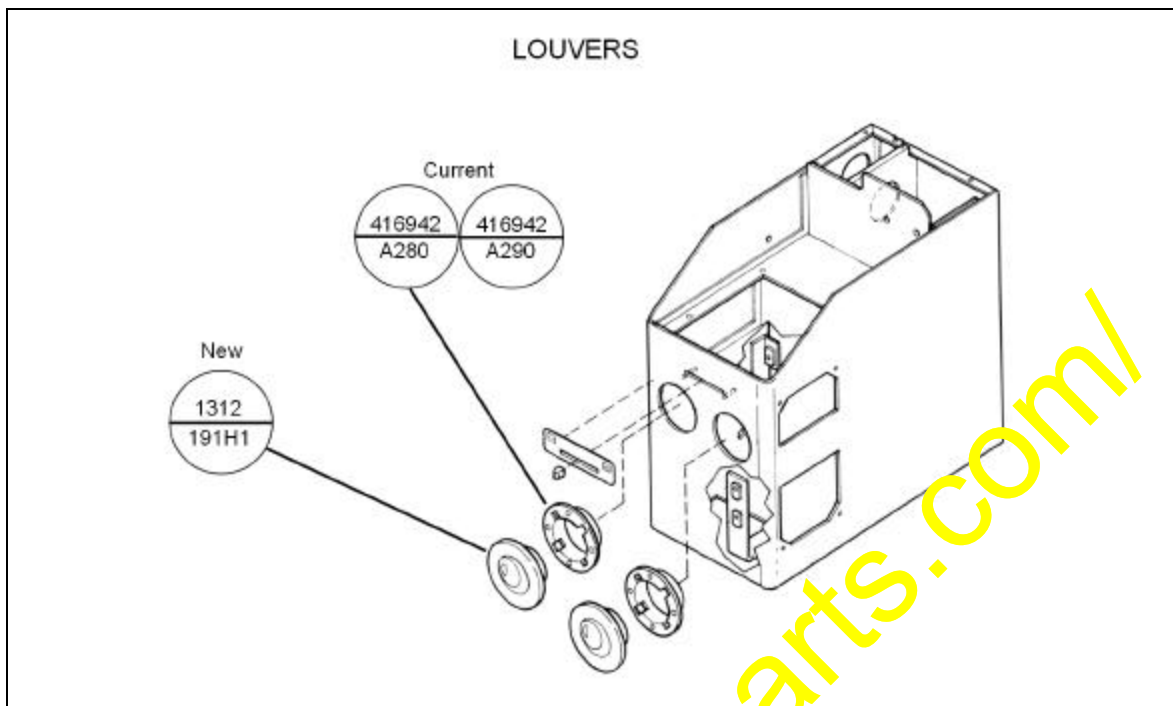

Figure 2
5. As shown in Figure 2, replace the current louver with new louvers model number 1312 191 H1.